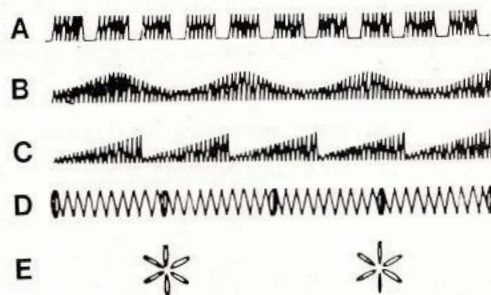

Fig. 20
- "A" Sew a few stitches at 5 width then turn knob back to O for a short period. Count, if necessary, to establish a rhythm. (A, Fig. 20)
- "B" Move the zigzag width control slowly back and forth between the number 2 and number 0 (B, Fig. 20)
- "C" Gradually move the zigzag width control from 0 to 5 and instantly return to O. Then, repeat likewise. (C, Fig. 20).
- "E" Set drop feed knob at " Δ " position and zigzag width control at the number 5 position. Take 3 or 4 stitches, leave needle in fabric and pivot fabric on needle to make next daisy petal. Continue until flower design is completed. Lock threads by setting stitch width at O and sewing 3 or 4 stitches in center of design. (E, Fig. 20).